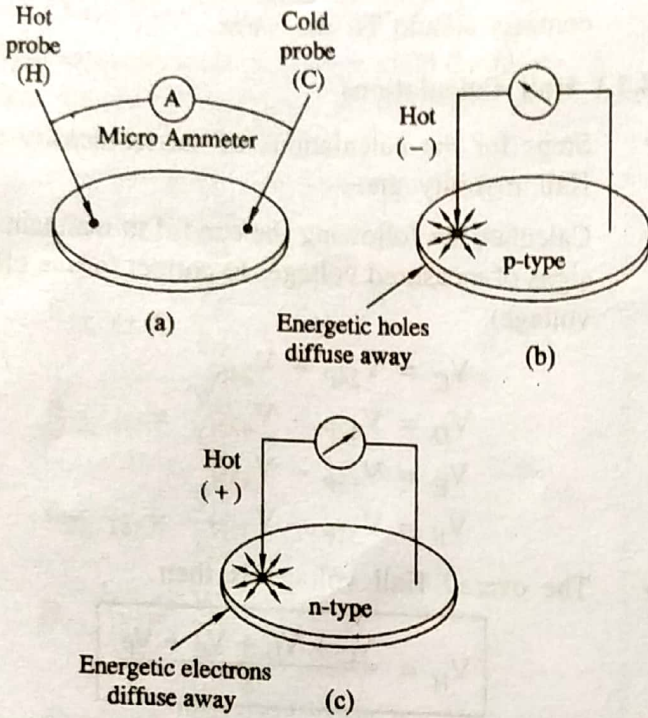

FIG. 4.4 : HOT-POINT PROBE MEASUREMENT
- If H is positive w.r.t. C, the sample is n-type (as show in Fig. 4.4(c)), otherwise it is p-type (as show in Fig. 4.4(b)).